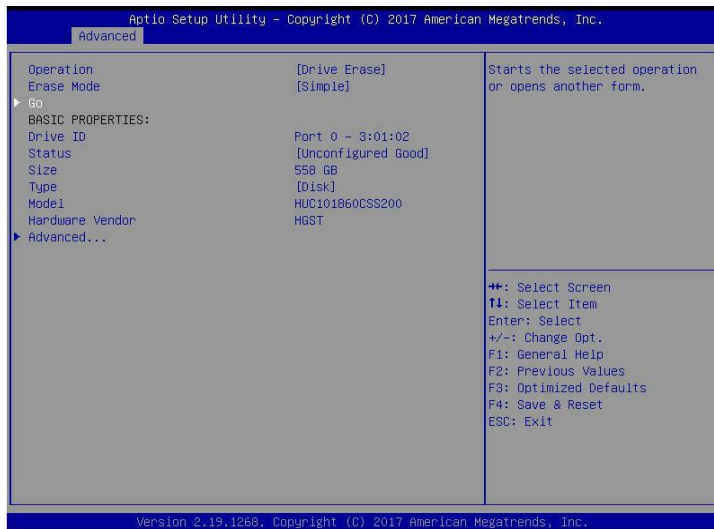

Figure 6-81
e) Enter the interface shown in Figure 6-81, select Go, and press Enter.
✧ Figure 6-81 Select Go